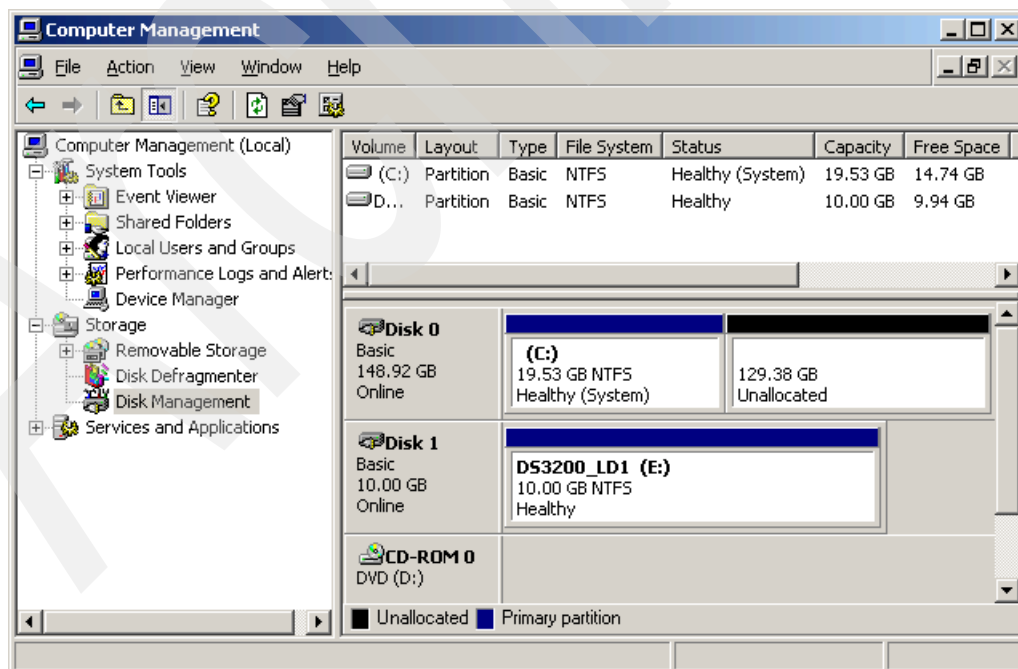

Figure 16-19 New partition on the logical drive
3. Follow the process under the guidance of the wizard to define the partition size, drive letter, file system, and volume label. The partition will be created and formatted. The Disk Management applet now displays the new partition (allocated drive E), which is ready to be used (see Figure 16-19).